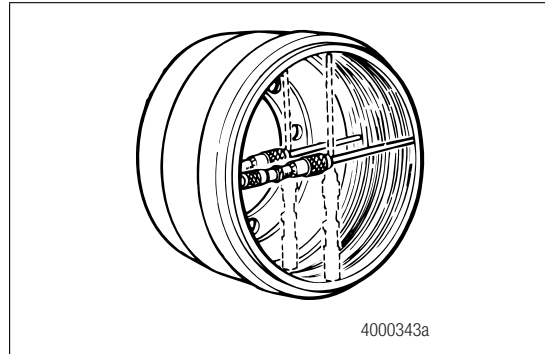

Figure 4.2
- B. Measure the inside diameter of the drum in several locations with a drum caliper or internal micrometer. Figure 4.2.